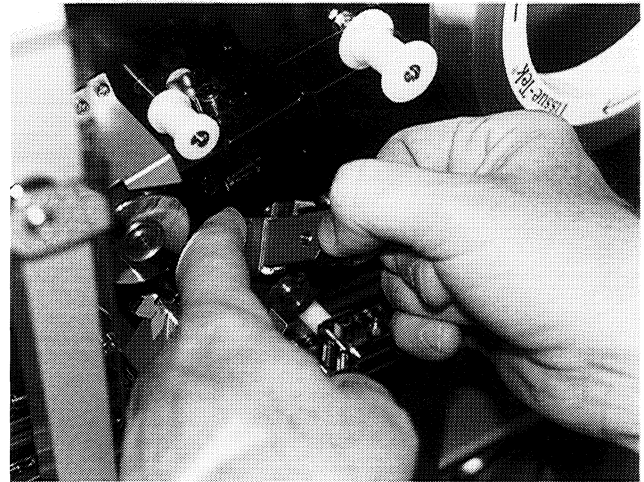

Figure 8-5
5. Holding the blade against the safety handle, carefully insert the blade into the slit of the guide piece on the blade assembly. Push the blade completely in without dragging the sharp edge of the blade along the guide piece. The black safety handle must be seated flush against the guide piece when the assembly is fully and correctly inserted. If resistance is encountered prior to this point, carefully use one finger of the opposite hand to press against the body of the blade (near the tip) while continuing to push the assembly in with the other hand (Figure 8-5).